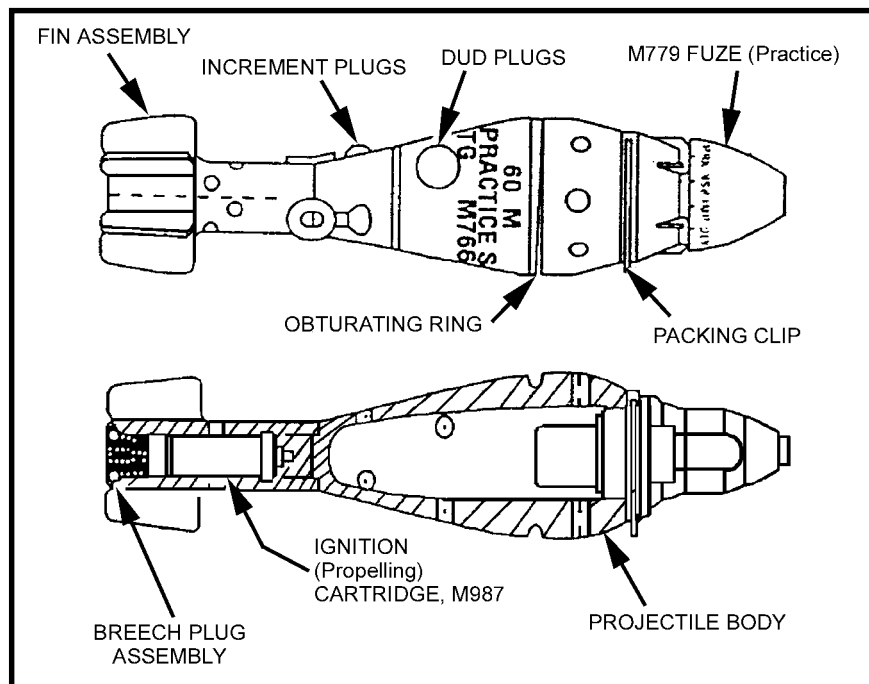

Figure 3-12. M766 (SRTR) cartridge.
c. The M766 short-range training round (SRTR) cartridge (Figure 3-12) can be fired from the 60-mm mortar using standard sight and fire control equipment and firing table FT 60-P-1. A 60-mm subcaliber device can be inserted in the 4.2-inch mortar to fire the M766 (SRTR) for training 4.2-inch heavy mortar platoons.
(1) The M766 (SRTR) cartridge weighs 2.9 pounds and is 11 inches long. It has a maximum range of 538 meters and a minimum range of 56 meters. The cartridge is blue with white markings and one brown band.
(2) The M766 (SRTR) uses an M779 PD fuze, which produces a visible flash, a cloud of smoke, and an audible sound on impact for spotting purposes. The M779 has multioption type (PRX/NSB/IMP/DLY) dummy settings to simulate an M734 multioption fuze.